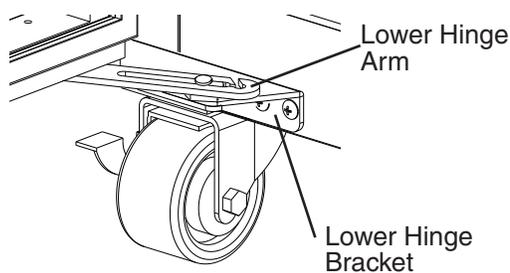

Fig. 64
- 17) Open the door and connect the lower hinge arm to the slide pin, then close the door. See Fig. 64. **NOTICE! Thrust washers must be in place to prevent wear and damage to the hinge brackets.**